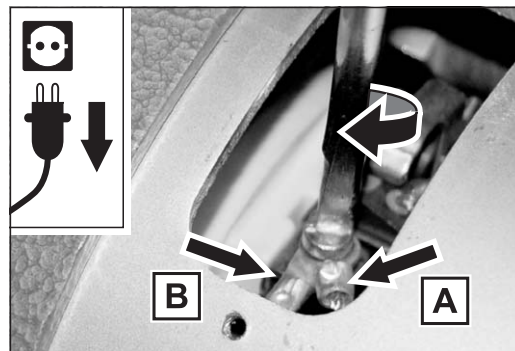

Fig. 54 Tighten down the cable of the carbon brush (**A**) and the cable of the motor winding (**B**).
- 7 Tighten down the cable of the carbon brush (fig. 54, **A**) and the cable of the motor winding (fig. 54, **B**).